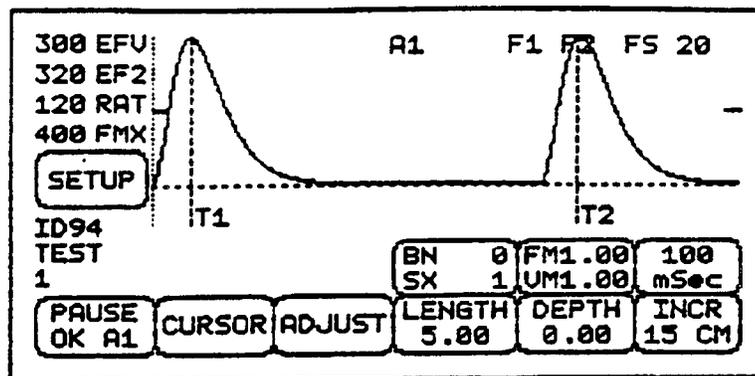

Figure 3-11. Collect Screen with Waveform.
21. **Collect Screen.** The Collect screen, Figure 3-11, contains both control options (generally in boxes) and information (generally not in boxes). The Analyzer will be at this screen while the SPT is being performed and data are being collected. At this point some of the input data can be reviewed and checked again such as project title information, LENGTH, DEPTH, INCR. These can be changed by pressing their respective box or by pressing the SETUP box to return to the set-up screen. If no changes are needed, the Analyzer is prepared for receiving data.
- The blow number (BN) will increase with each hammer blow. Also, the ID of the save location of each blow saved (which number out of the 179 blow locations) is displayed just above the project name. In Figure 3-11 the location shown is ID94.